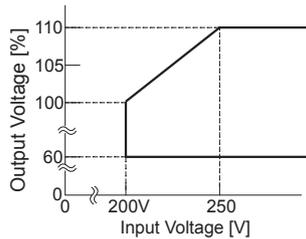

Fig.3.7 DBS700B Output Voltage Adjustment Range
■The output adjustment range for DBS700B is shown in Fig.3.7.